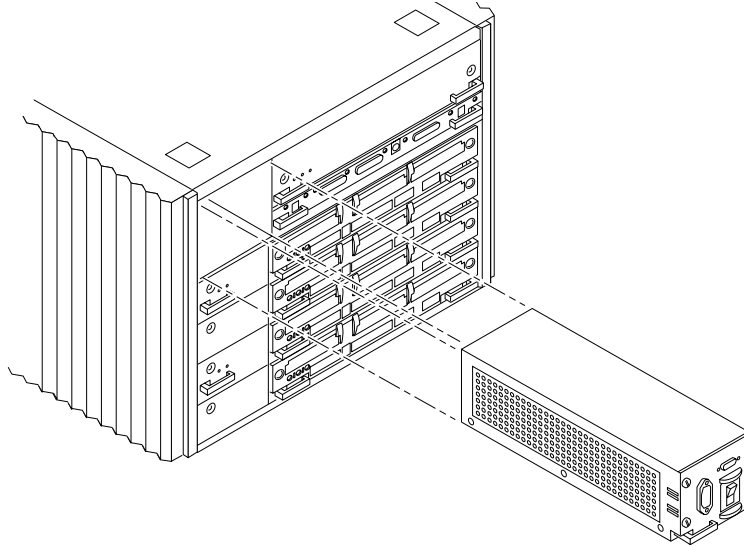

FIGURE 5 Fan Tray Assembly—System Rear
- 6. Remove the fan tray assembly from the rear of the system (FIGURE 5).**
4. **Replace the fan tray assembly in the rear of the system (FIGURE 5).**